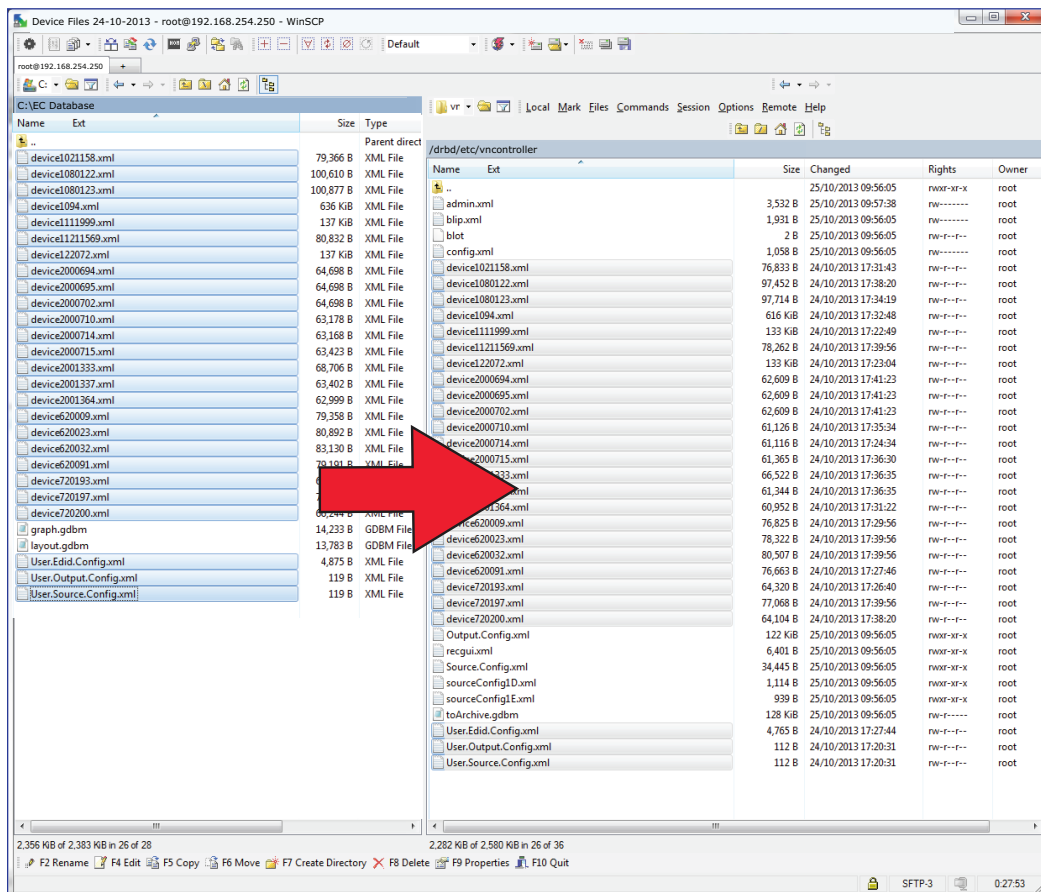

Figure 177. Copy Files to Enterprise Controller
3. In the left pane, navigate to the folder containing the previously saved XML files (see figure 177).
5. From the the left pane, copy the following files to the server location (see figure 177).